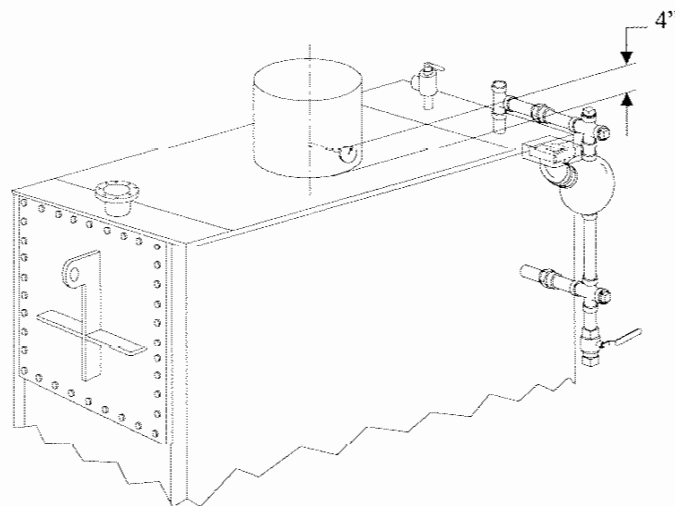

Figure 6
19. It is a good idea to install a flue gas thermometer in the boiler stack 4" above the boiler casing(See figure 6). Note the net stack temperature (gross minus ambient equals net) in the beginning and if you notice it going up it might be time to check the tubes for sediments or scale.